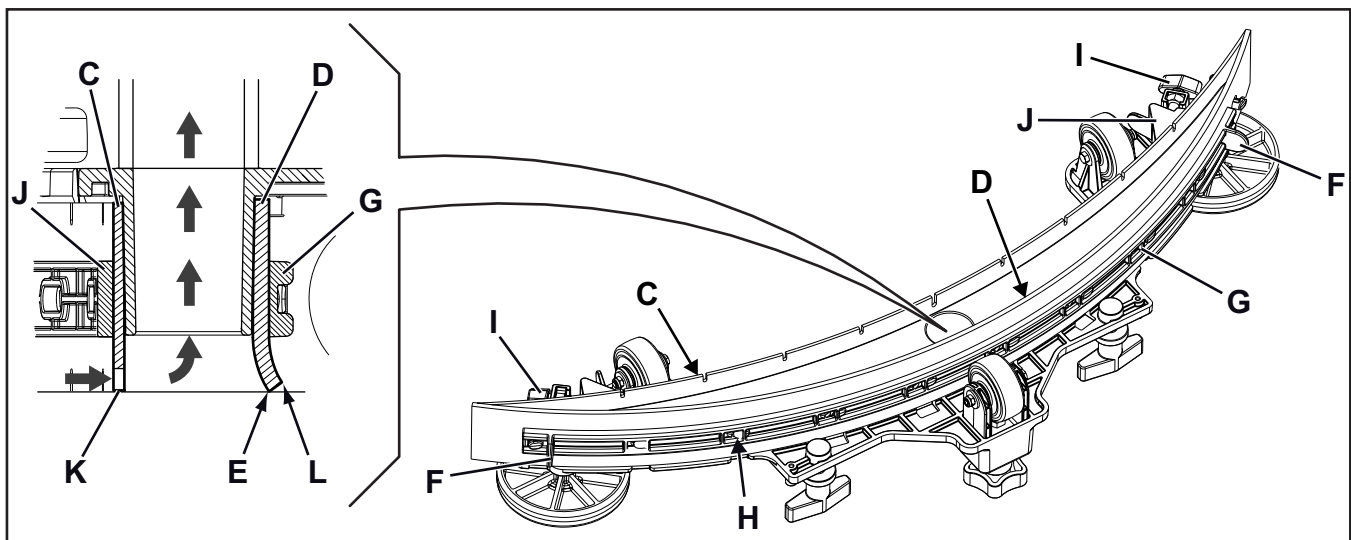

Figure 3
2. Check the condition of the front (C, Figure 3) and rear (D) blades, ensuring there are no cuts and tears; if necessary, replace them as shown below. Check that the front corner (E) of the rear blade is not worn; otherwise, turn the blade to replace the worn corner with one of the three remaining intact corners. If the other corners are worn too, replace the blade according to the following procedure:
- Using the tab (F), release and remove the elastic strap (G) from the fasteners (H), then turn or replace the rear blade (D).
- Unscrew the handwheels (I) and remove the strap (J), then turn or replace the front blade (C).
- Check that the lip (K) of the front blade (C) and the lip (L) of the rear blade (D) are resting as shown in the figure.